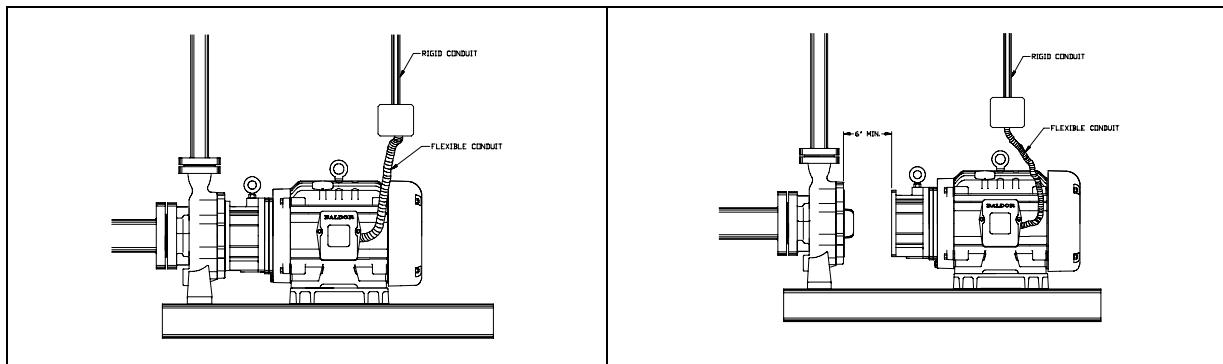

Fig.5-3: Flexible Electrical Connection on the Motor
3. The motor electrical wiring should include a flexible section near the motor to allow movement of 6" for servicing of the pump without disconnecting piping. The recommended installation is illustrated in Figure 5-3.